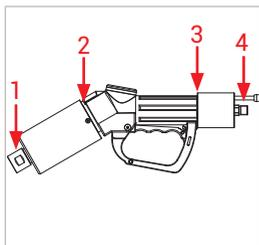

Figure 23
- ▶ Check the following measuring points (Figure 23):
- WEH® service receptacle (1)
- impact protection sleeve and hand grip (2)
- swivel joint and hand grip (3)
- fitting (4)